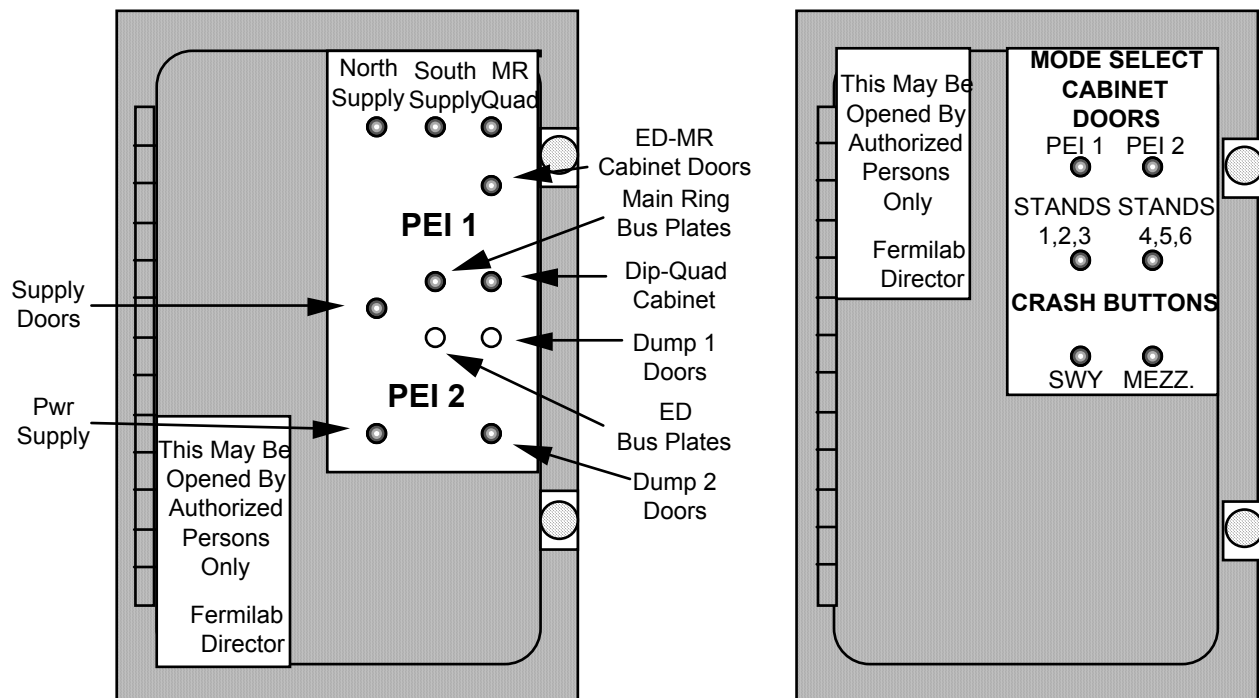

Fig. 4
- 4.5 Additional indicator boxes are illustrated in Fig. 4 and located as shown in the building layout (Fig. 7).